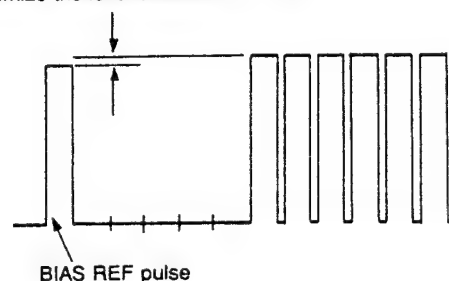

Fig. 2-13.
3. As shown in Fig. 2-13, adjust the BIAS REF data so that the all white peak level and BIAS REF pulse level of the signal become equal.